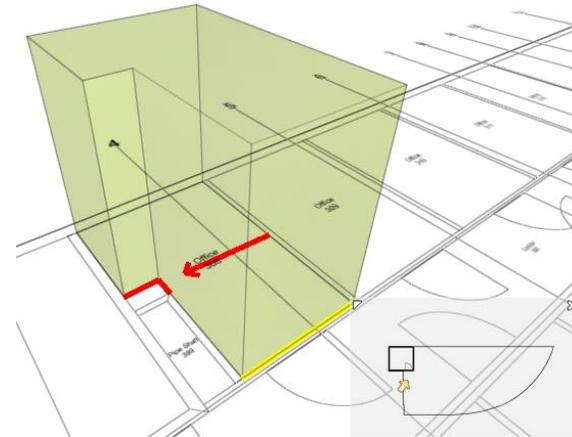

Figure 64 Part of the Space Boundary is not aligned with walls
- (4) In the **3D View** you can see a space object and a red line showing the part of the space boundary (see Figure 64), which is not near a wall (or another space).